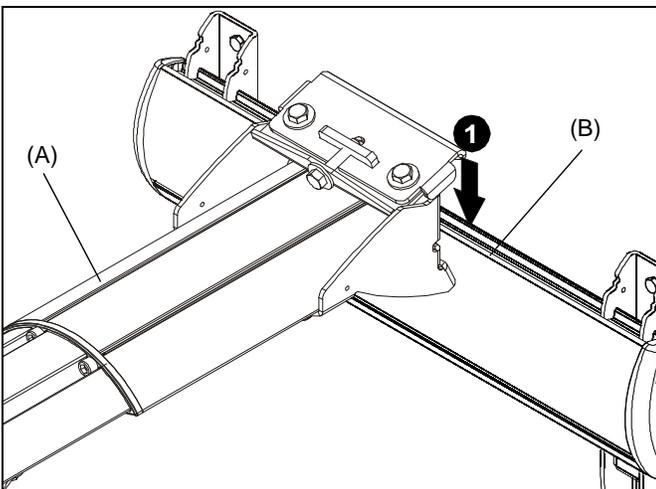

Figure 10
1. Lift WMA2S assembly (A) up to mounting bracket (B) and hook top plate onto cross bracket on mounting bracket. (See Figure 10)